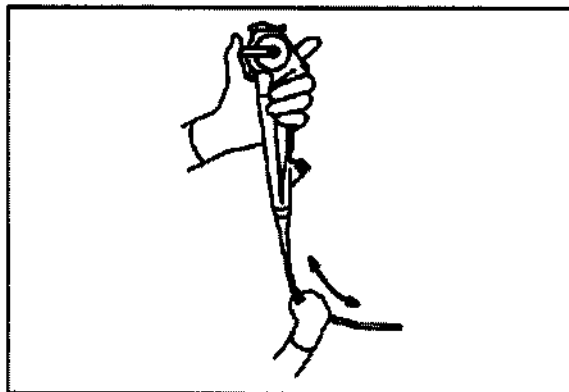

Fig 3.2
4. Holding the operation section with one hand, the entire surface of the insertion part and the light stroking in two directions with the other hand. (See fig3.2). Confirm no objects or wire from the insert protrusion inserted into the pipe and make sure that no abnormal hard.